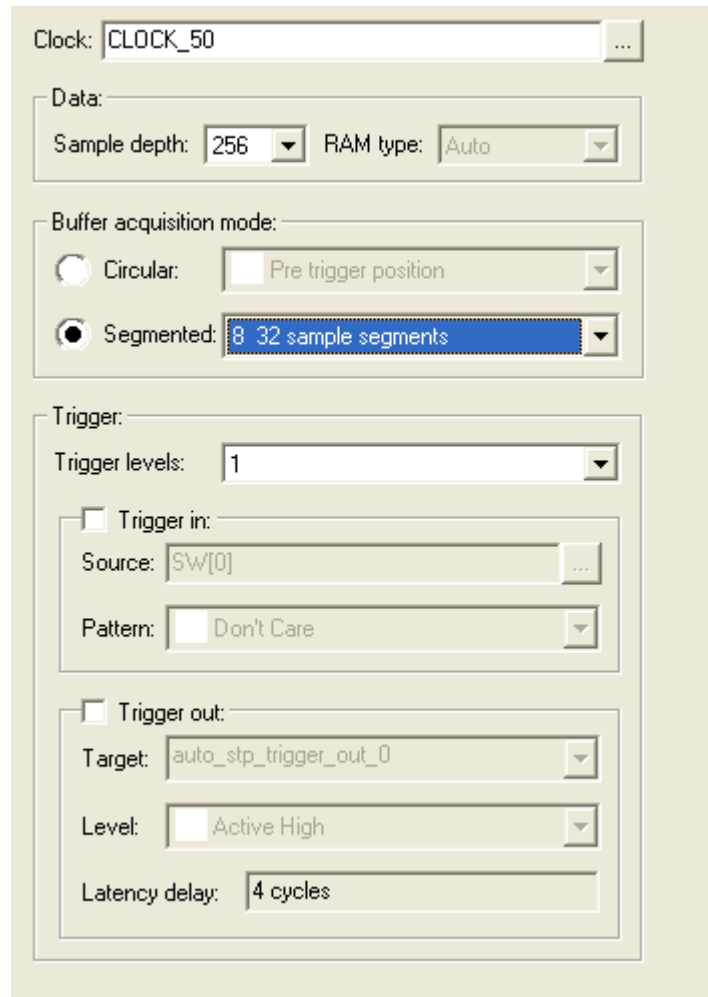

Figure 26. Select Segmented buffer acquisition mode with 8 32 sample segments
3. In the Signal Configuration pane of the SignalTap II window, in the Buffer Acquisition Mode section of the pane select Segmented. The default option for Buffer Acquisition Mode is circular, and this is the mode that would have been selected in the previous parts of this tutorial. In the dropdown menu beside Segmented, select 8 32 sample segments. This will result in a pane that looks like Figure 26.